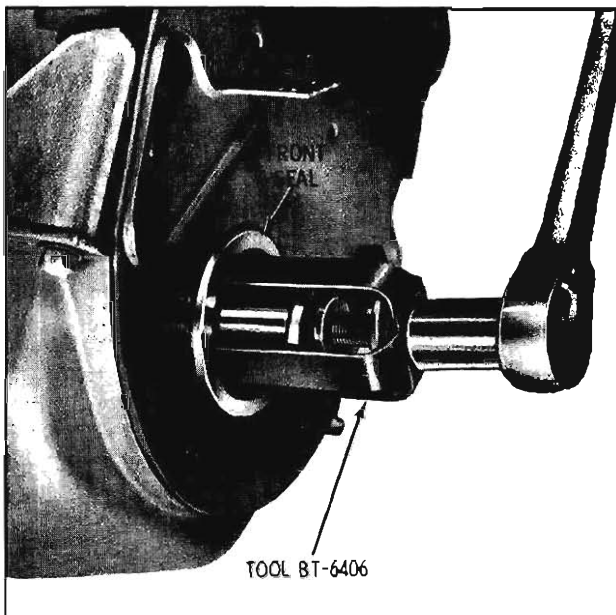

Fig. 3-441 Front Oil Seal Removal
3. Using Tool BT-6406, remove oil seal as shown in Fig. 3-441.